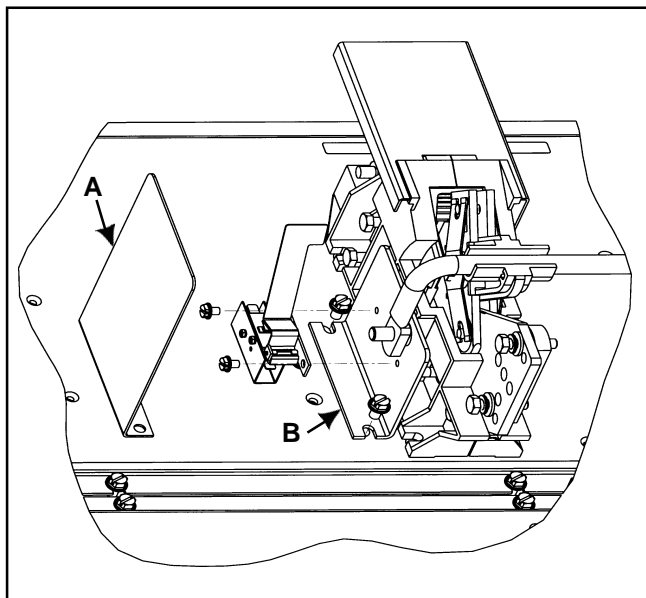

Fig. 1
3. Loosen the two screws retaining the Cross Bail Protector Shield (Item A Fig. 1). Remove the shield.
4. Align holes in Auxiliary Switch with holes in the Cross Bail Side Support (Item B, Fig. 1). Insert two 10-32 Thread Rolling Screws and torque to 30 lb.-ins.